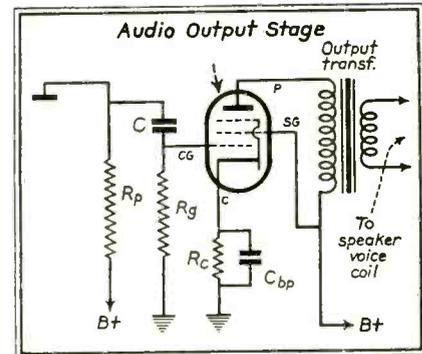

Fig. 1. A popular method of obtaining bias for the output stage is by means of a self-bias resistor connected in series with the cathode.
Audio amplifiers are generally well understood, although the reasons for the choice of certain values of resistance or capacity in coupling the audio stages are not always clear. In Fig. 1 the plate resistance for the triode amplifier tube, which is generally combined with the second-detector tube, is designated as R_p . The coupling condenser C and the grid resistor R_g are drawn in a rather unusual arrangement, primarily to show that these two components in series form a parallel circuit across the plate load resistance R_p . The a-c resistance of C and R_g together are almost always greater than R_p . Values for C range between 0.006 and 0.02 mfd in different makes of receivers; R_g from 100,000-ohms to 3 megohms in different models. The condenser C and the resistor R_g are paired and the choice of the value of one more or less designates the value of the other.
Figs. 1 to 4 inclusive show typical output stages. In Fig. 1, bias for the
trations this month do not always permit the large percentage of variation possible in other parts of receiver. For example, in the simple output stage shown in Fig. 1 any change larger than 20%, in the value of the coupling condenser (C) will cause a corresponding change in the frequency response of the receiver, unless a similar change is made in the accompanying grid resistor (R_g) in the opposite direction. Any great change in both of these components will alter the plate load of the previous stage, since they are connected in parallel across it. For this reason changes should be restricted to within 20 per cent of the value specified.